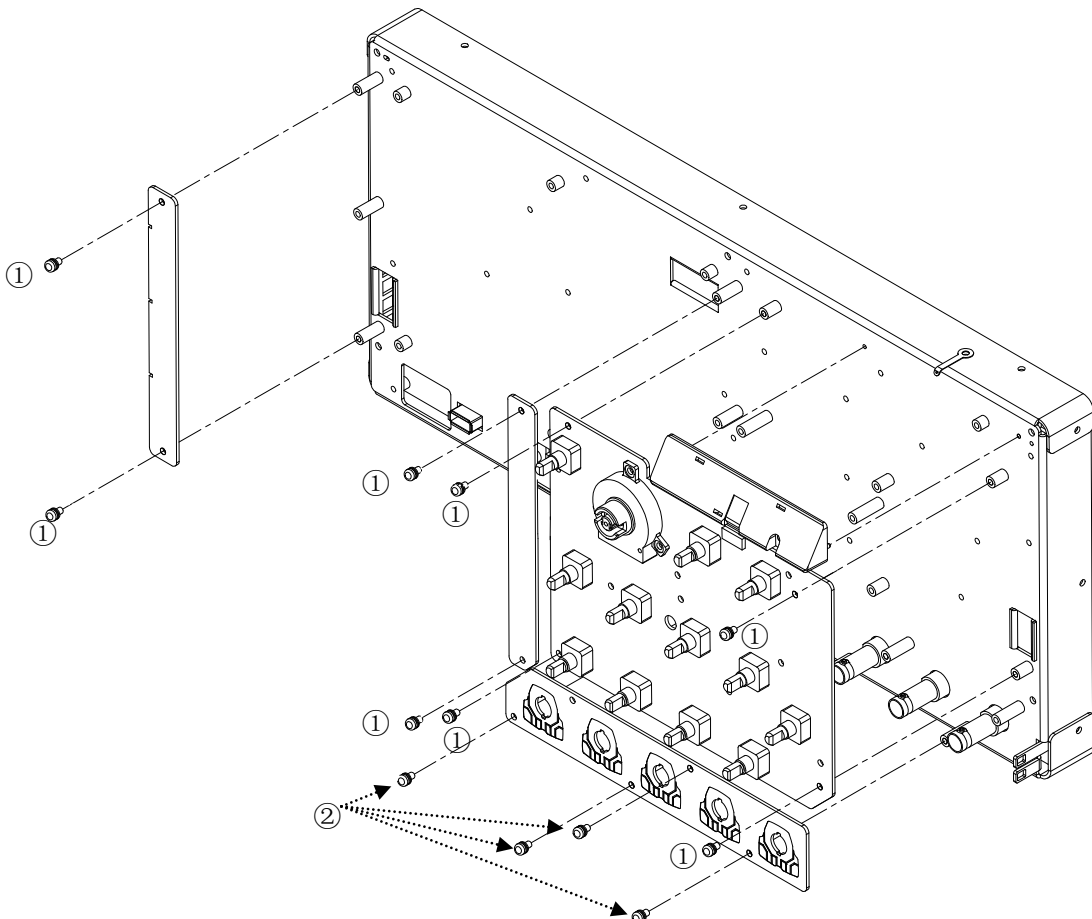

Figure 1-8 Disassemble the Keyboard
1. Remove the 4 screws (②, **Figure 1-8**) fixing the BNC patch board using the screw driver (T10).
3. Remove all the 22 screws (①) fixing the main board and front metal panel using the screw driver (T10). The screw positions are not shown completely in the figure above, please remove them according to their actual positions.